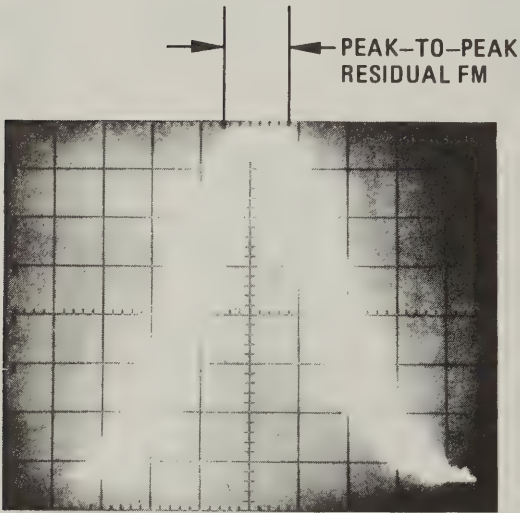

Figure 4-6. Residual FM Displayed on Spectrum Analyzer
- r. Spectrum analyzer display should be similar to Figure 4-6. Frequency deviation measured across top of trace should be less than 10 kHz peak (20 kHz peak-to-peak).